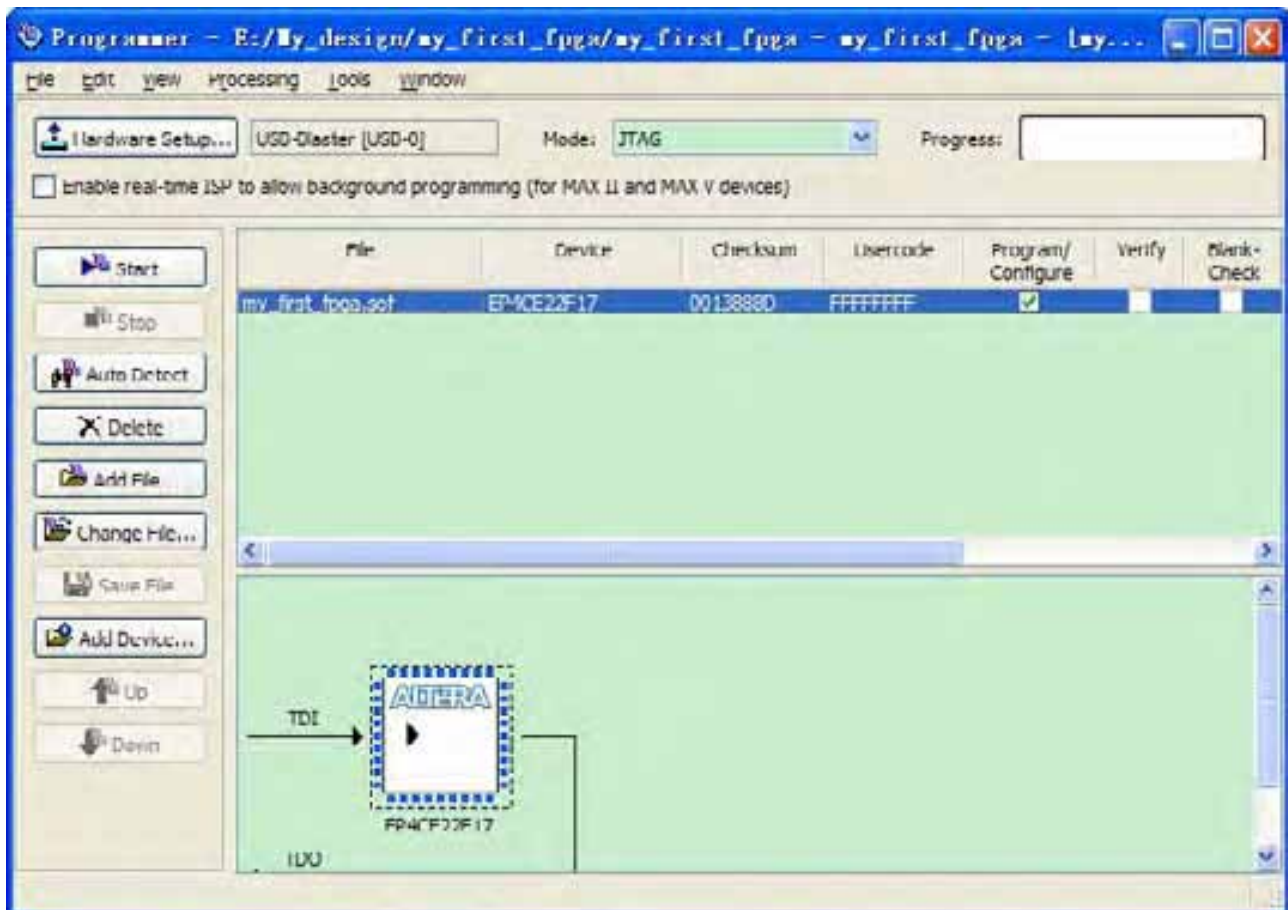

Figure 6-46 Programmer Window
1. Select Tools > Programmer. The Programmer window opens, as shown in Figure 6-46.